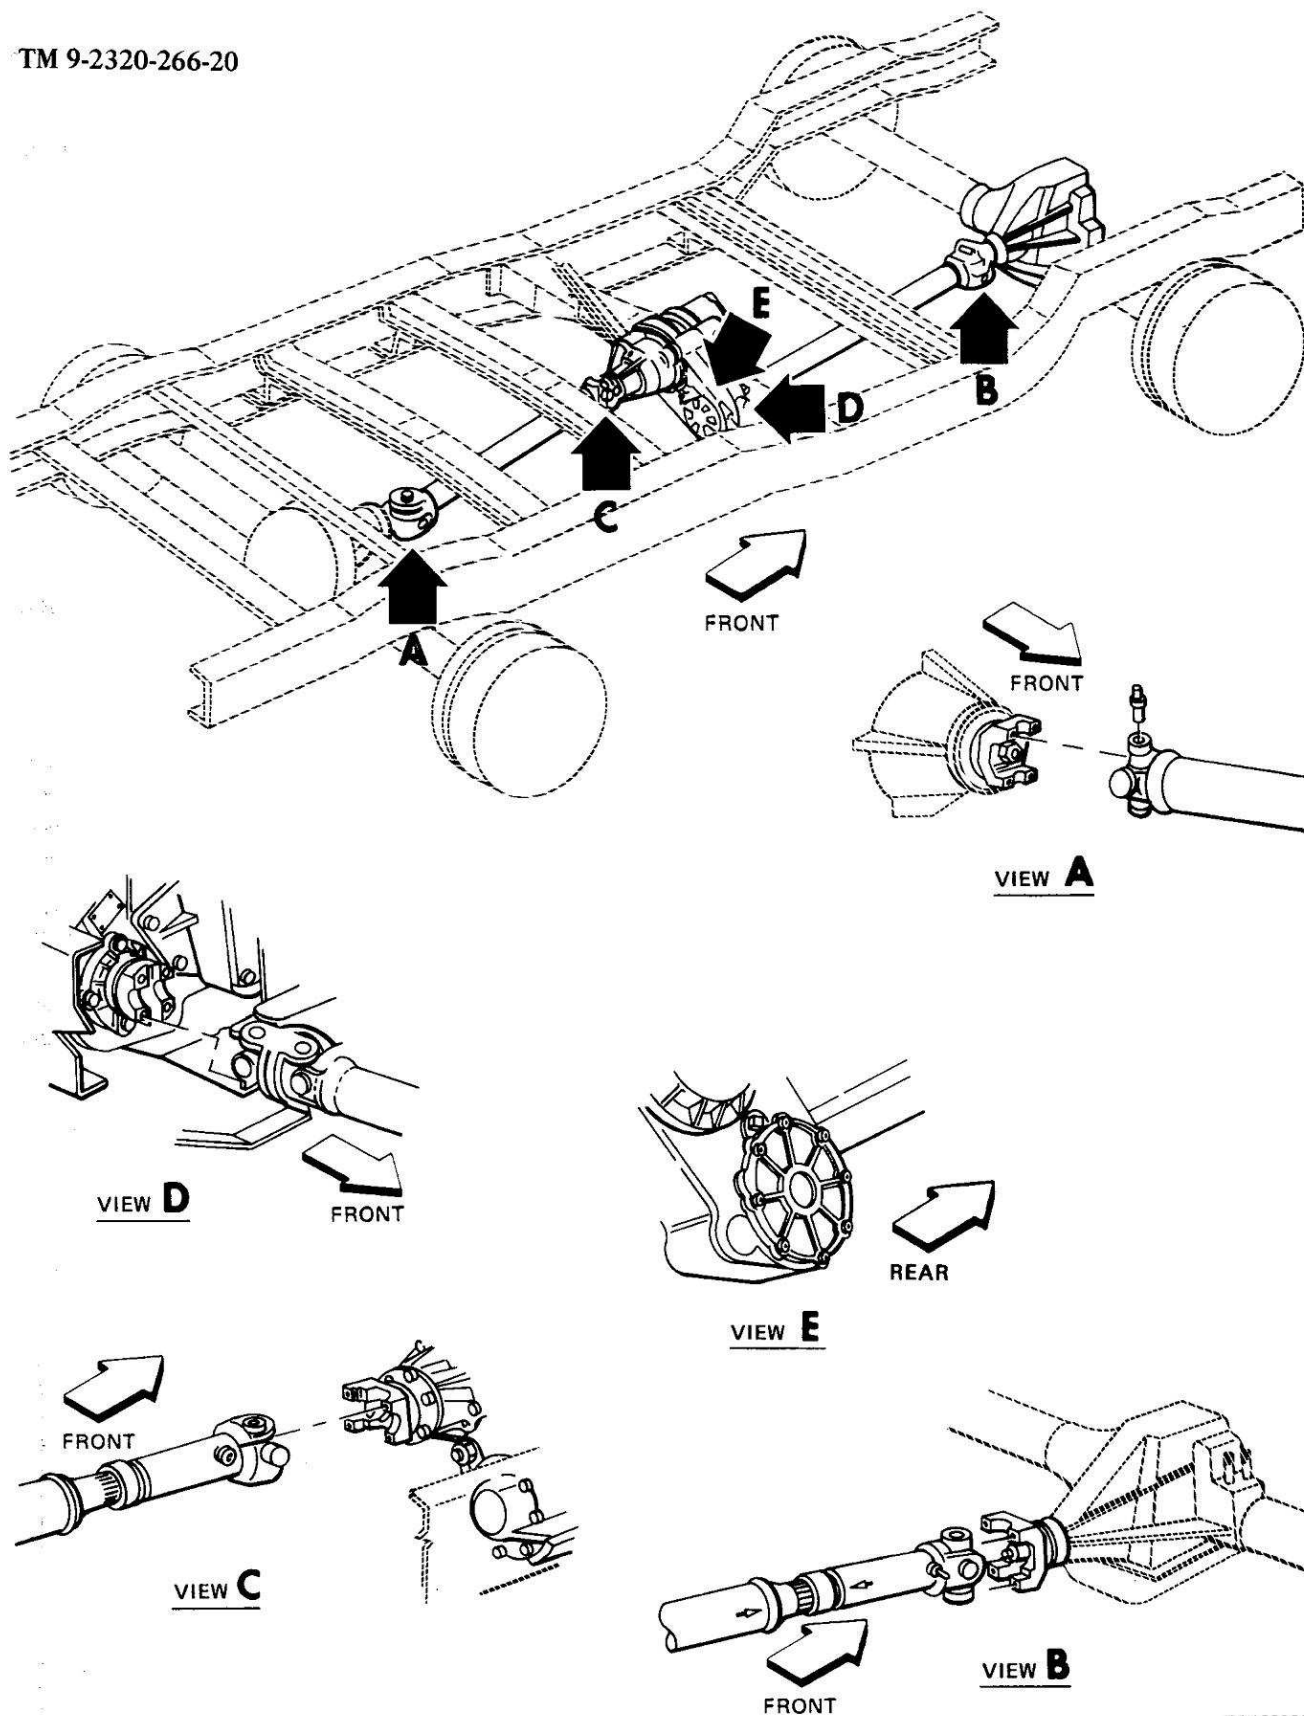

Figure 2-69. 4X4 Vehicle Driveline Components.
b. The proper oil level ranges from the bottom of the check-fill hole to $\frac{1}{2}$ inch below the check fill hole. Check oil level when cold (figure 2-69).
c. When draining to refill, remove the check-fill hole plug and the drain hole plug. Drain completely. (figure 2-69). Clean the drain hole plug threads after draining and coat with solvent, MIL-S-22473 or equivalent.